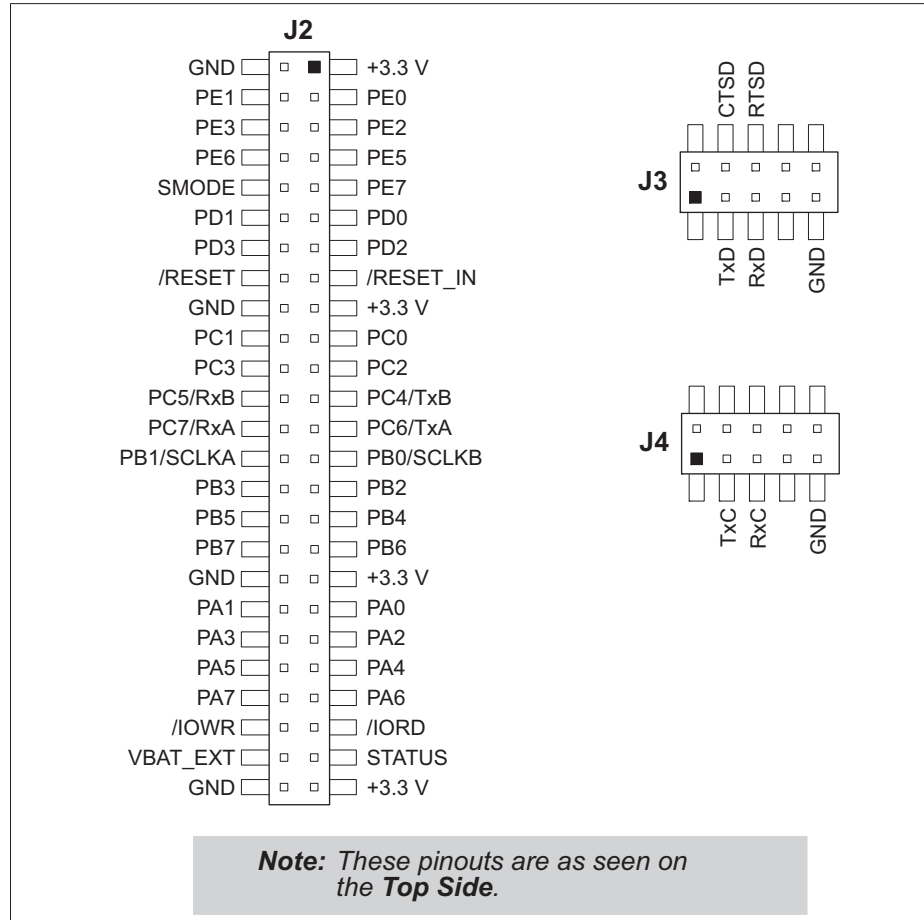

Figure 2-4. Serial Communication Accessory Board Pinout
- **Module Extension Headers**—The complete pin set of the RCM5600W module is duplicated below header J2. Developers can solder wires directly into the appropriate holes, or, for more flexible development, a 2 × 25 header strip with a 0.1" pitch can be soldered into place. See Figure 2-4 for the header pinouts.
The Serial Communication accessory board provides the user with RCM5600W connection points brought out conveniently to labeled points below header J2. The pinouts for header socket J2 and the RS-232 headers at J3 and J4 are shown in Figure 2-4.